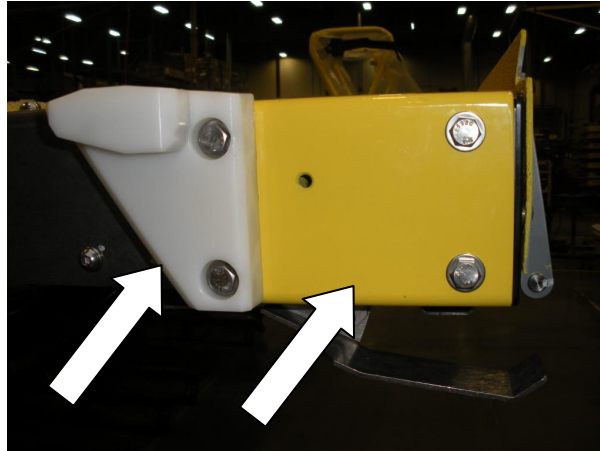

FIGURE 4-15: LH GUIDE BLOCK AND LH PLATFORM ROLLSTOP SWITCH COVER
- 4) Refer to Figure 4-15. Remove four (4) bolts that attach Left-Hand (LH) Guide Block and LH Platform Rollstop Switch Cover.